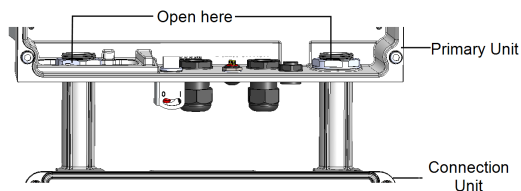

Figure 52: Conduit nuts
7. Unscrew the two conduit nuts in the Primary Unit securing the Connection Unit to it, see *Figure 52*.